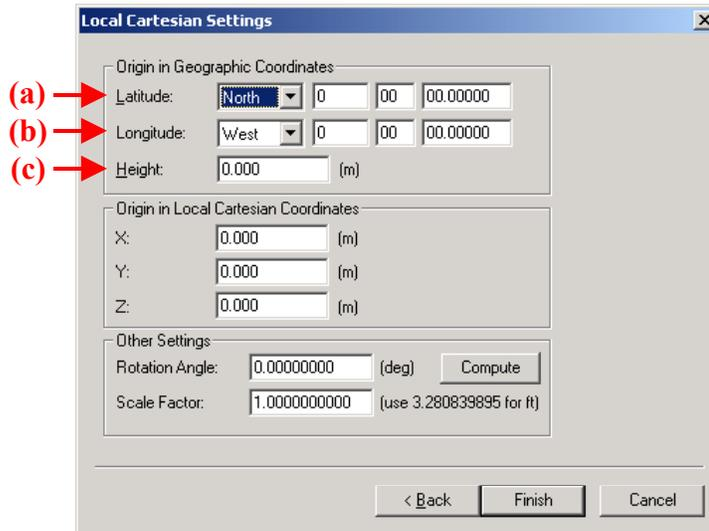

Figure 10.10 Local Cartesian Settings
- 4) You will then come to the 'Transverse Cartesian Settings' dialog box (Figure 10.10).